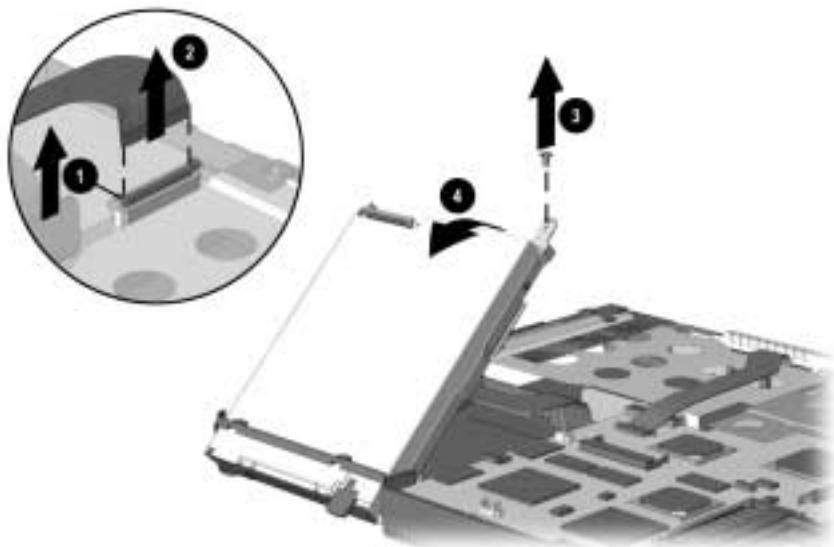

Figure 5-23. Removing the Diskette Drive
2. Release the ZIF connector that connects the diskette drive ① (Figure 5-23).
3. Disconnect the diskette drive cable ②.
4. Remove the screw that secures the diskette drive to the base enclosure ③.
5. Lift up on the back of the diskette drive ④ and remove it.